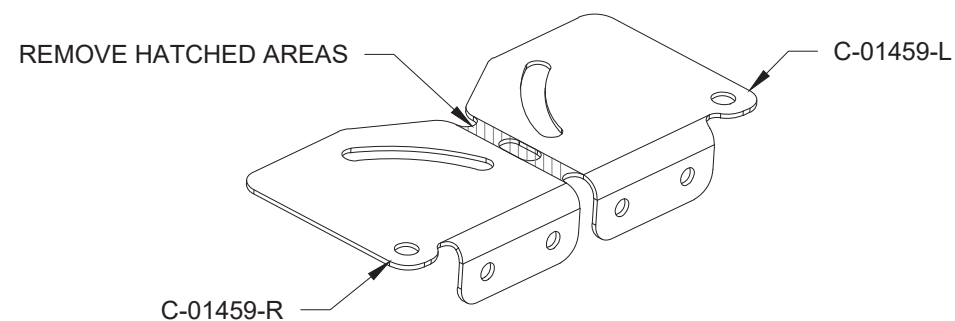

FIGURE 2: SWITCH BRACKETS
Step 2: Label and separate the C-01459-L & -R Switch Brackets as shown in Figure 2.